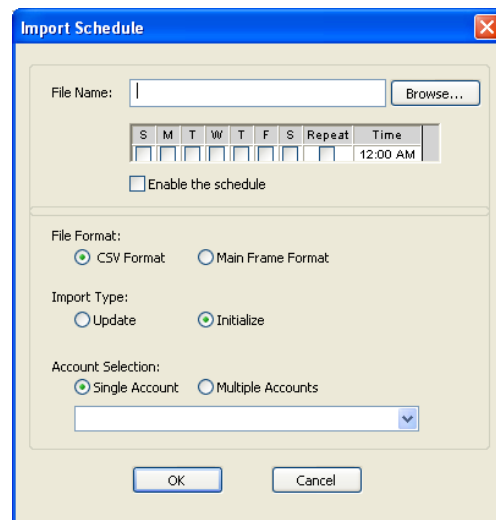

Figure 69
- 3a. If you selected SCHEDULED IMPORT in step 2, click the days of the week and enter the time that you want the import to be performed (Fig 69). Check the REPEAT square if the schedule is to repeat on a weekly basis. You must also check the Enable Schedule box to initiate the schedule that you created.